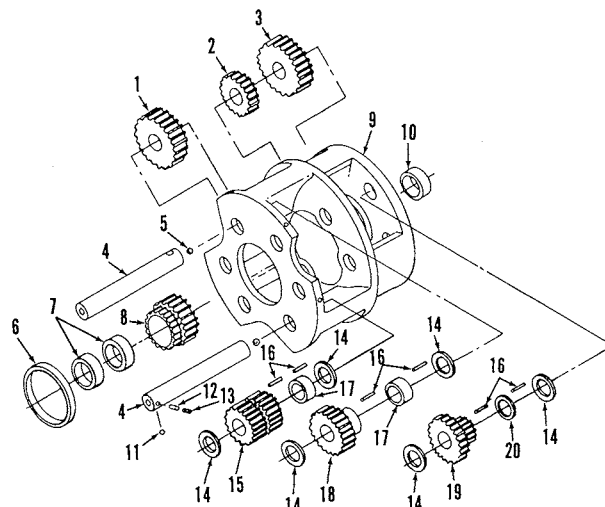
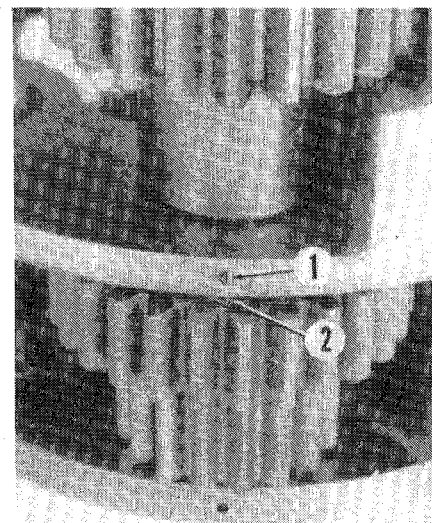

Fig. 177—Exploded view of output planetary carrier used on 4450, 4650 and 4850 Power Shift models.
Fig. 177A—When assembling planetary gears, make certain timing marks on each of the B1-B2 planet pinions (2) are aligned with timing marks on carrier (1).
149. PLANETARY CARRIER (4450, 4650 AND 4850). Remove retaining screw (13—Fig. 177) and pin (12) from each planet pinion shaft (4). Push each planet pinion shaft rearward, removing thrust washers (14) and pinion gears (15, 18 and 19) with bearings as each shaft is withdrawn. Remove planet sun gears (1, 2, 3 and 8) from carrier.
To reassemble planetary, reverse the disassembly procedure while noting the following special instructions: When assembling roller bearings into planet pinions, note that bearings on B1-B2 pinion gears (19) are separated by a narrow spacer (20) while wide spacers (17) are used on B3 and B4 pinion gears. Make sure timing marks on each of the B1-B2 planet pinions (2—Fig. 177A) are aligned with timing marks on the carrier (1). Be sure retaining balls (11—Fig. 177) are installed in each pinion shaft. Apply Loctite 222 to threads of retaining pin screws (13), then tighten to 40 in.-lbs. (4.5 N·m).